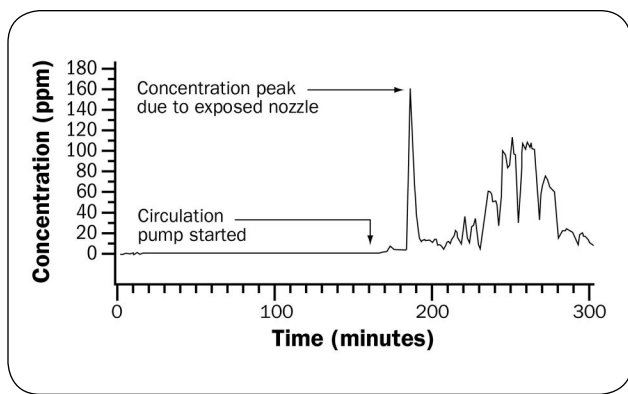

Figure 1. H₂S gas concentration during pit agitation.
Table 1 outlines the effect of hydrogen sulphide at various concentrations. Hydrogen sulphide is heavier than air, therefore it tends to stay just above the surface of the manure. Ventilation systems and wind effects can cause the gas to move up into the barn space towards an exhaust fan or open window. The release of hydrogen sulphide is relatively low when manure remains undisturbed and the outside temperature is low. However, hydrogen sulphide levels can reach dangerous levels in seconds when a tank is agitated, especially if splashing or surface agitation takes place (Figure 1). Extra precautions are required when dealing with an under-floor manure storage (see *Management Suggestions – Manure Storages*). Several deaths have occurred when workers have entered manure storages or the room above one in an attempt to save someone who had been overcome by H_2S .
- Do not agitate the liquid manure in storage unless absolutely necessary. If agitation is necessary, keep the agitator below the liquid surface and do not direct the stream of agitated manure towards a post or wall. Research has shown that gas levels will increase to lethal levels in seconds when splashing or surface agitation takes place (Figure 1). Remove all livestock, if possible, before agitating and emptying. Monitor gas levels in the barn.